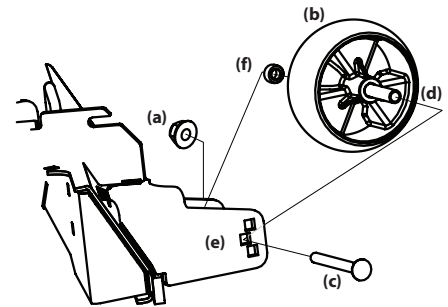

Figure 15
2. Remove the lock nut (a) securing one of the front gauge wheels (b) to the deck. Remove the front gauge wheel (b), hex screw (c), spacer (d) and spacer (f). See Figure 15.